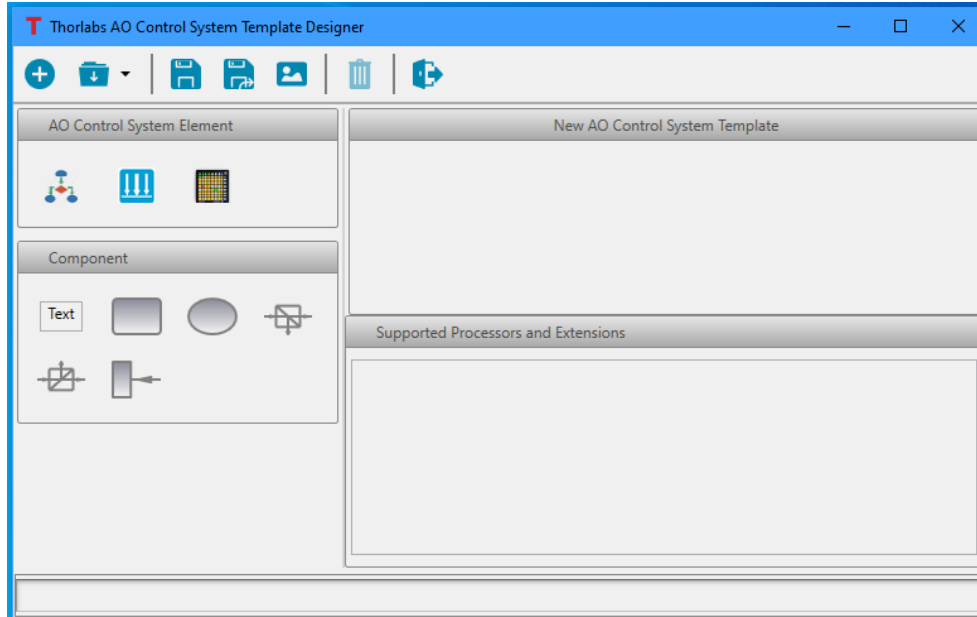

Figure 46 This window is used to create a new template, which is used when setting up a new AO control system.
Templates are graphical representations of the optical layout of a control system. Templates are used when creating control systems, as outlined in Chapter 7. The built-in tool to create a new template that represents a specific systems layout is accessed by clicking the **Templates** icon () on the main control window toolbar, the template designer window is displayed as shown in Figure 46.
The **New AO Control System Template** panel, the upper right panel in Figure 46, is the panel into which the various elements are dragged to create a new system template. After dragging an element into the new control system template panel, one will see nine (9) small squares: four corners, four mid-edge segments, and one off the element. An example of the rectangular element dragged into the template panel is shown in Figure 50. One of the corners is circled in red; each of the four corners may be used to scale the element by grabbing it with the cursor and dragging the cursor. One of the mid-edge segments is circled in green; each of the four mid-element points may be used to draw a line starting at the mid-element point to a mid-element point of another element. The one circled in blue may be used to rotate the element.